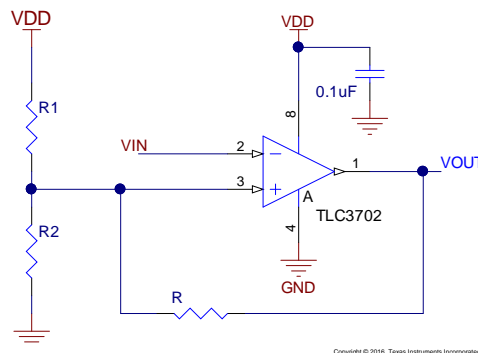

Figure 25. Application Adding Hysteresis to the TLC3702-Q1
Figure 25 shows a typical topology used to introduce additional hysteresis. The additional hysteresis depends on the external resistors value and the supply voltage VDD.
- Figure 29 shows an evaluation layout for the TLC3702-Q1 SOIC-8 package. C1 and C2 are power-supply bypass capacitors. Place the 0.1- $\mu\text{F}$  capacitor closest to the comparator. Figure 25 shows a schematic of this circuit.